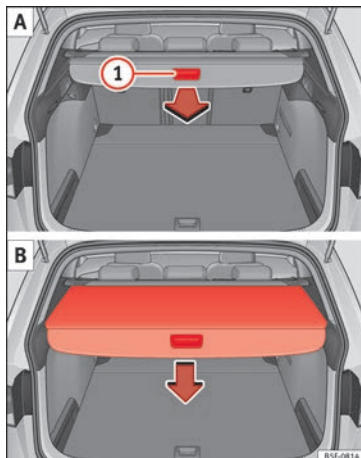

Fig. 165 In the luggage compartment: opening and retracting the rear shelf.
- Pull evenly on the rear shelf using its handle » **Fig. 165** ① **A** in a backwards direction until it audibly clicks into place.
- Press on the handle of the rear shelf in the direction of the arrow to release it » **Fig. 165** **B**.